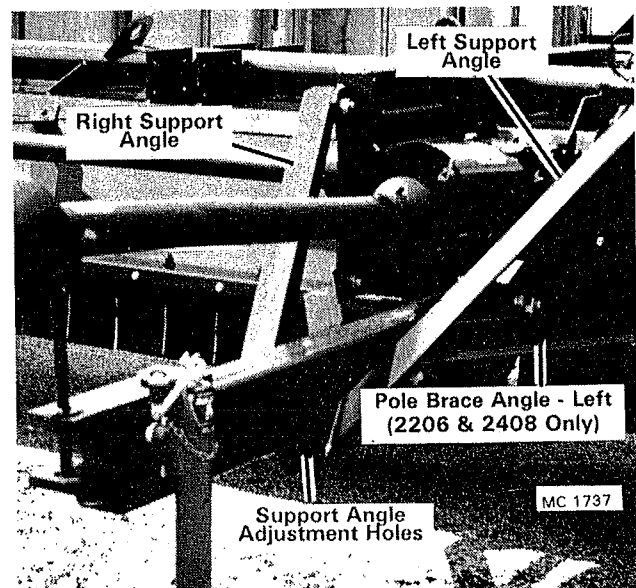

Figure 6
3. **Model 2206 & 2408** - Install the pole brace angles, see Figure 6. Use $\frac{3}{4}$ -10 x 2 $\frac{1}{2}$ " capscrews, lockwasher and nuts.